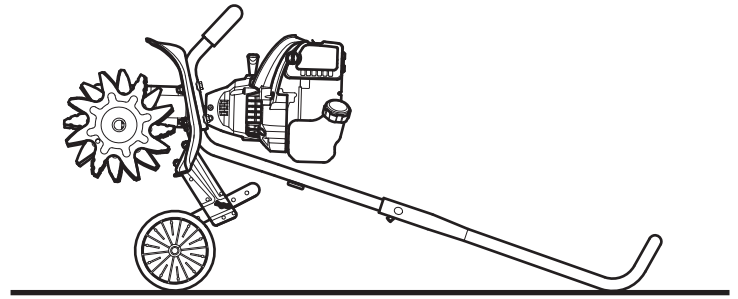

Fig. 14
2. Set the unit on a flat, level surface. Tip the unit back so that the handlebar touches the ground and the engine is in a horizontal position (Fig. 14).
2. **Set the unit on a flat, level surface.** Tip the unit back so that the handlebar touches the ground and the engine is in a horizontal position (Fig. 14).